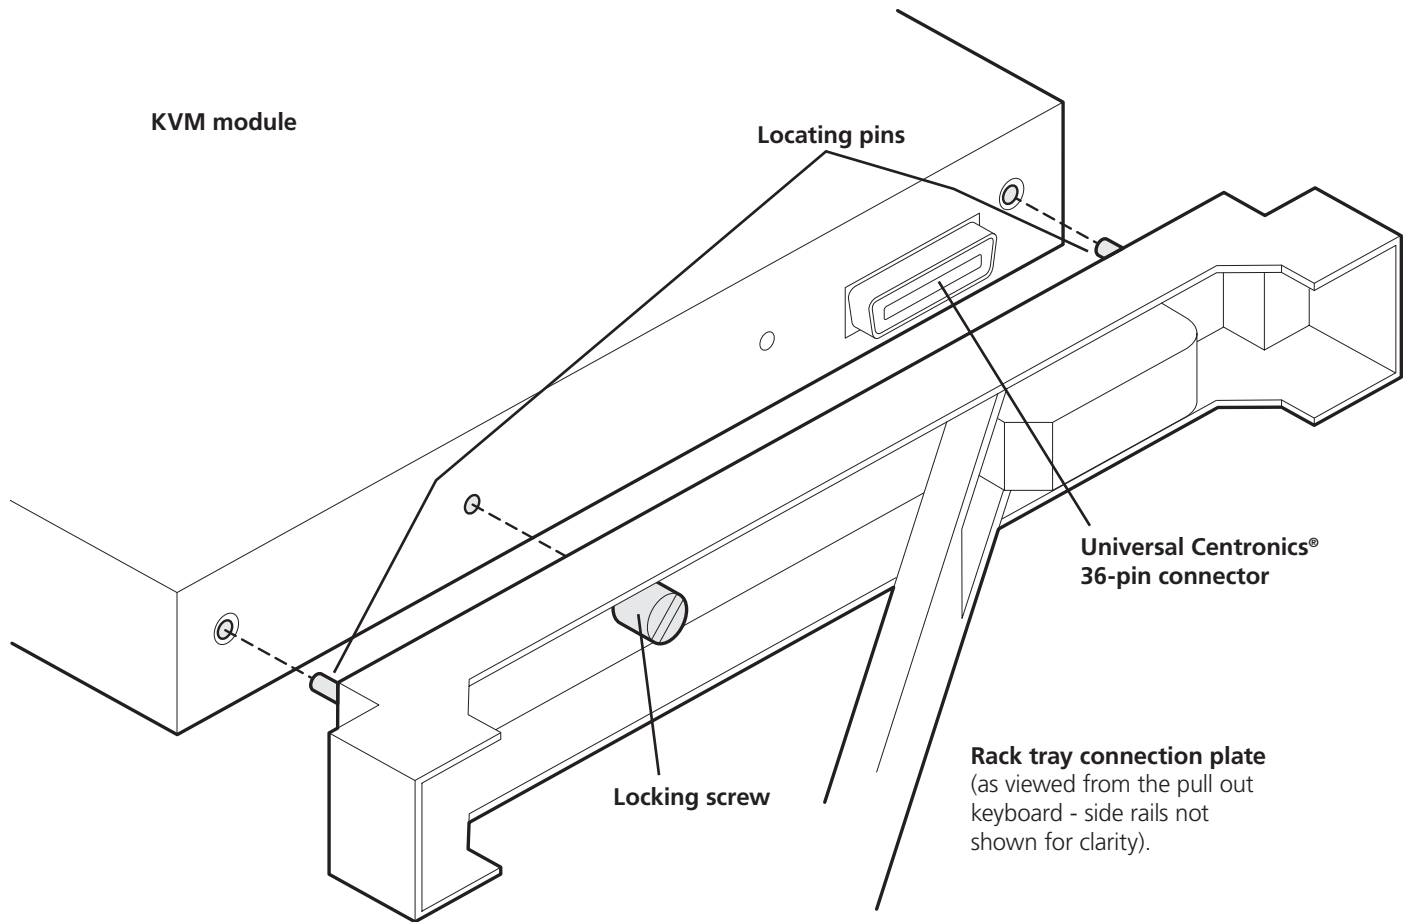

Figure 3-1. Aligning the KVM module with the connection plate of the rack tray.
- 2 Locate the connection plate at the rear of the rack tray and orientate the KVM module so that its universal Centronics® 36-pin connector aligns with the socket on the connection plate. See Figure 3-1.